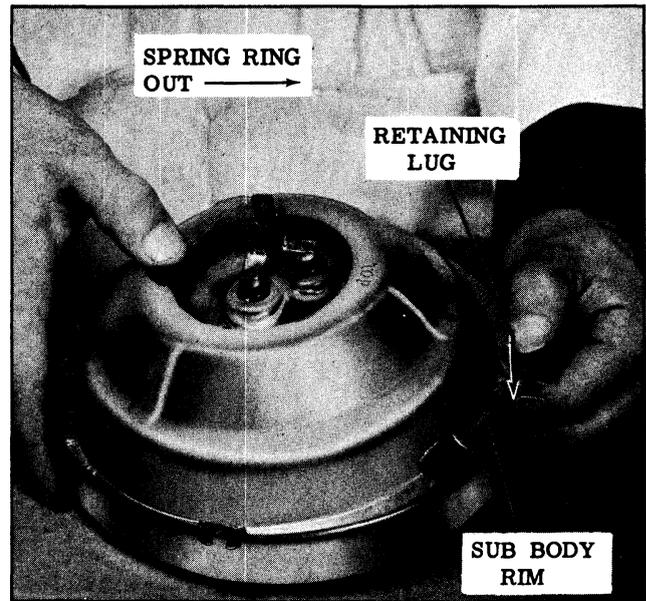

Fig. 13-57 Sub-Body Removal
3. Spring retaining ring to disengage rim of sub-body from top lug on retaining ring and remove sub-body. (See Fig. 13-57)